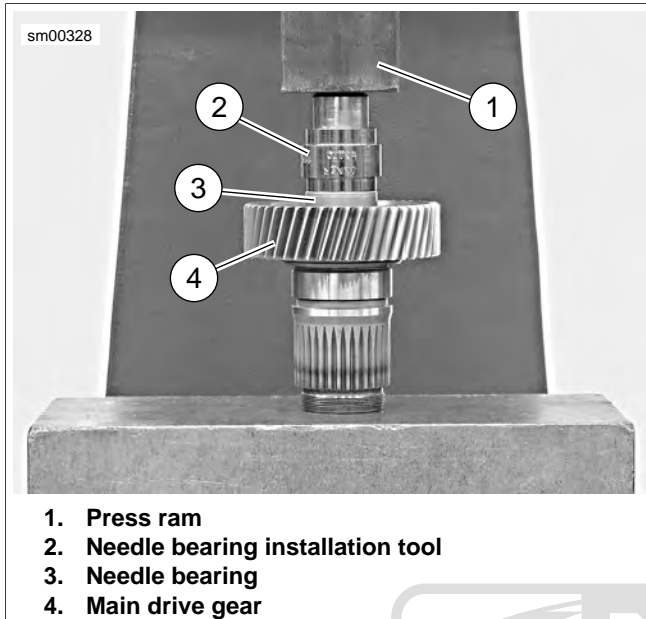

Figure 5-71. Pressing Inner Needle Bearing Assembly into Main Drive Gear
2. See Figure 5-71. Place main drive gear (4) on press bed with gear end facing up.
3. Place needle bearing (3) squarely into end of drive gear. Insert installation tool (2) with end stamped "INNER" facing needle bearing.